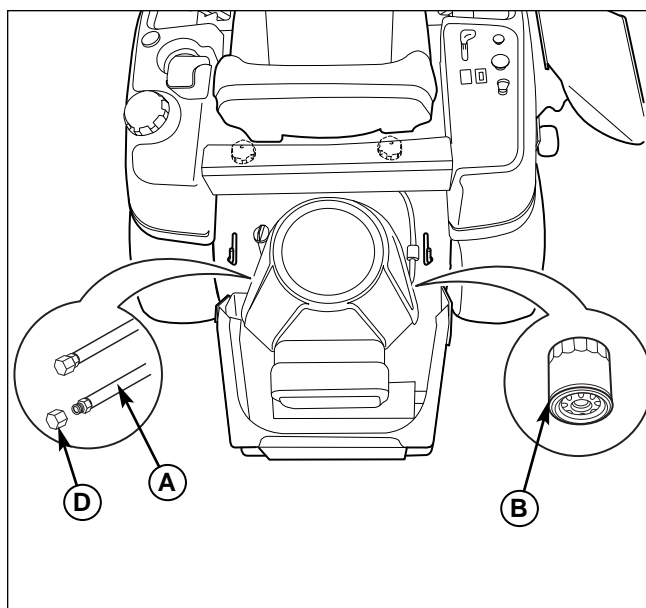

Figure 32. Change Engine Oil & Filter
2. The oil drain hose (A, Figure 32) is located on the left side of the engine. Remove the oil drain hose from its storage position and re-position the oil drain hose over the side of the engine deck and place a small pan beneath it to catch the old engine oil.
3. Using the appropriate tools, remove the cap (C) from the oil drain tube.
5. Place an absorbent shop cloth under the engine oil filter (B). Remove the oil filter and discard.